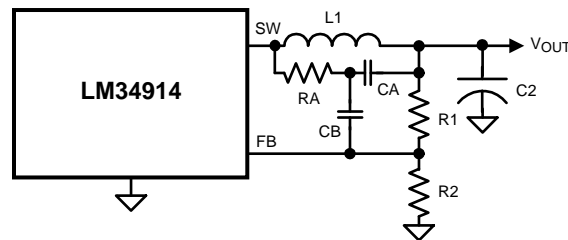

Figure 12. Minimum Output Ripple Using Ripple Injection
b) Minimum ripple configuration: If the application requires a lower value of ripple (<10 mVp-p), the circuit of Figure 12 can be used. R3 is removed, and the resulting output ripple voltage is determined by the inductor's ripple current and C2's characteristics. RA and CA are chosen to generate a sawtooth waveform at their junction, and that voltage is AC-coupled to the FB pin via CB. To determine the values for RA, CA and CB, use the following procedure: